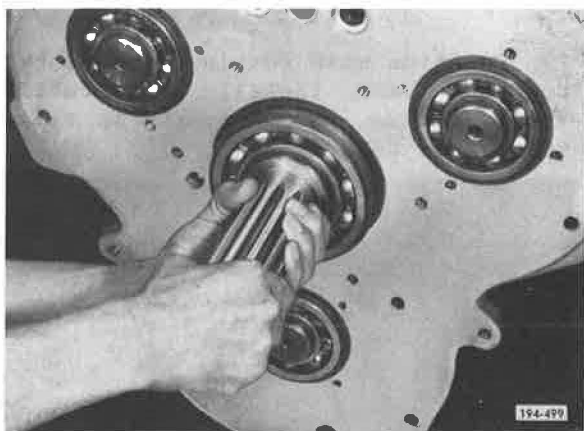

Figure 345. Installing Pinion
4. Install the main drive pinion into place. See Figure 345.